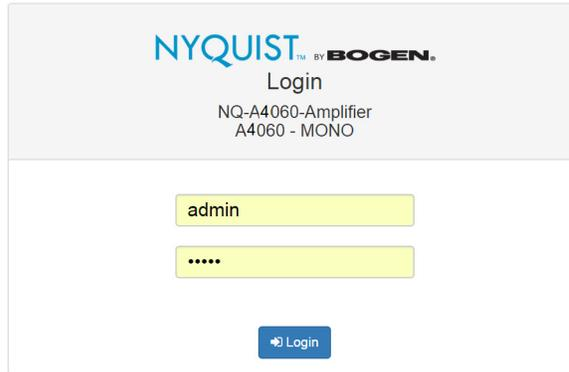

Figure 1, Nyquist Appliance Login
- Figure 1, Nyquist Appliance Login 2